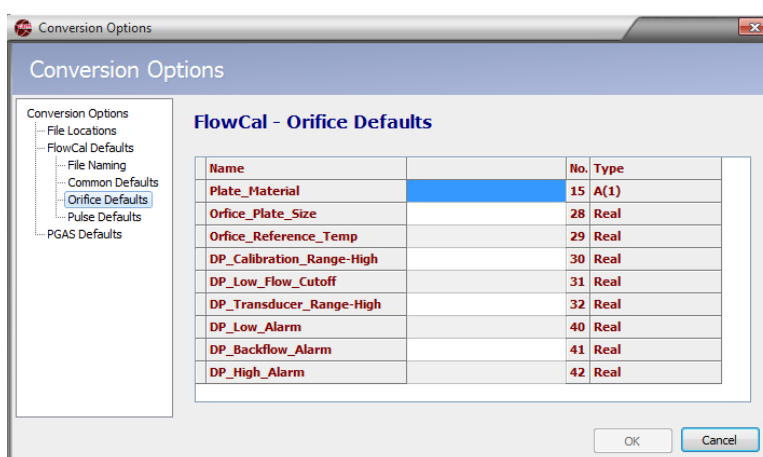

Figure 5.4—Flow-Cal Orifice Defaults dialog
- Orifice Defaults (Figure 5.4, page 65)